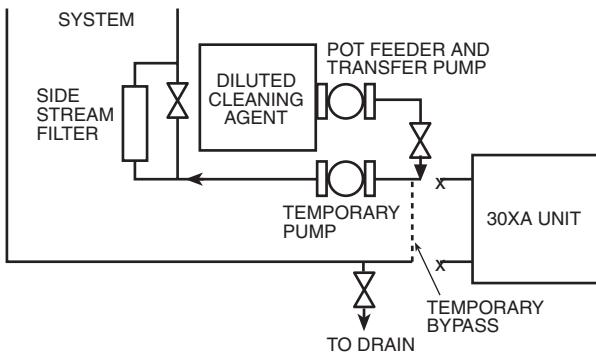

Fig. 31 — Cleaning Using a Side Stream Filter
- c. A side stream filter is recommended (see Fig. 31) during the cleaning process. Filter side flow rate should be enough to filter the entire water volume every 3 to 4 hours. Change filters as often as necessary during the cleaning process.